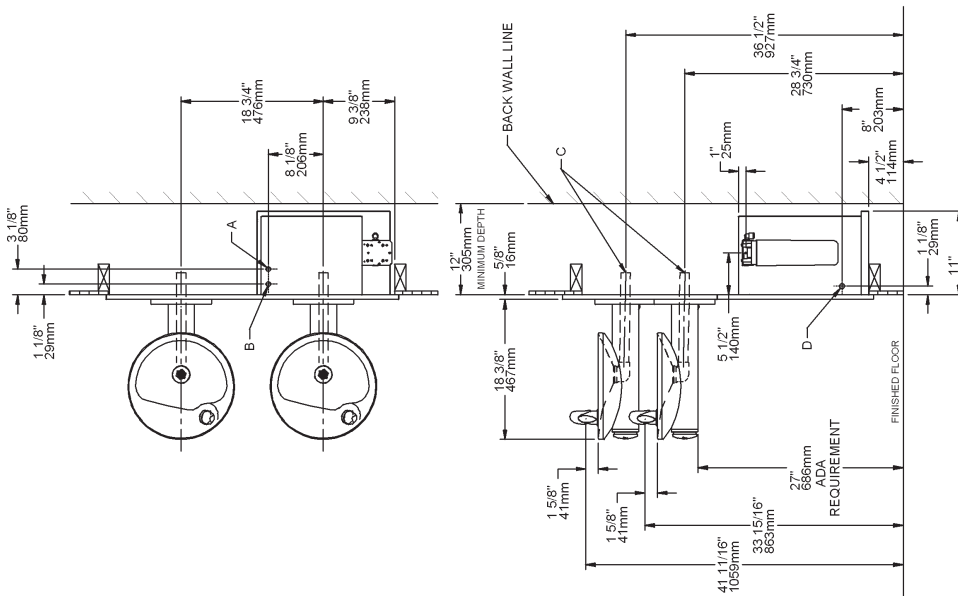

Figure 1 - Rough-in Dimensions
- 1. Install chiller:** Remove front panel of chiller. **Remove and discard cardboard inner pack from between compressor and side panel.** Slide chiller onto the shelf and position it to the left as per dimensions in Figure 1.